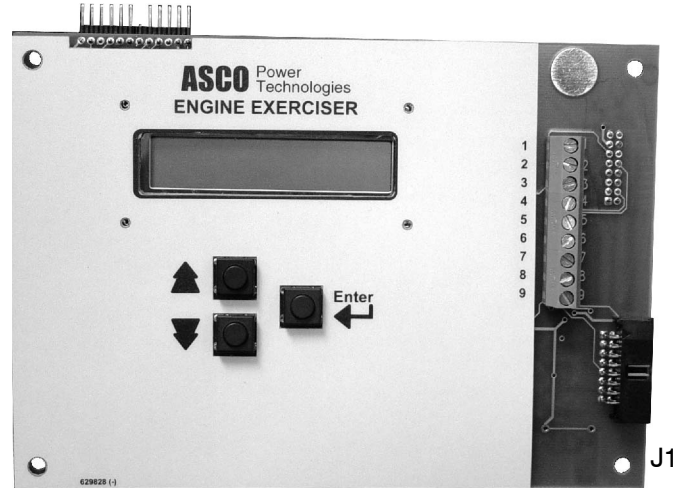

Figure 1. Accessory 11BG Module in kits.
## Connecting the Module – Figures 1, 2, 4
2. Unplug the ribbon cable (coming from the Controller) from the operator interface (J3 lower right side) and reconnect it (same orientation) to the Acc. 11BG module (J1 lower right side). See Figures 1, 2, & 4.